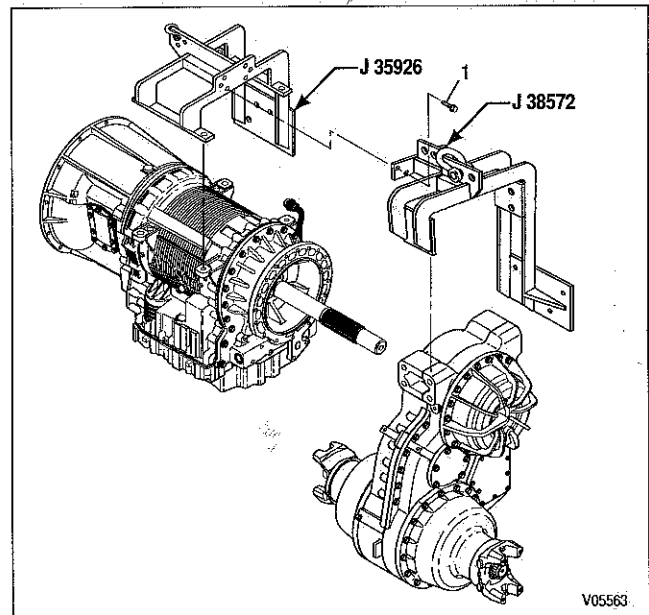

Figure 4-1. 3700 SP or MD 3070PT Repair Stand Brackets
4. For a 3700 SP or MD 3070PT transmission model, follow Step (1). In addition, install fixture J 38572 on the transfer case. Connect fixtures J 35926 and J 38572 by installing four bolts 1 (Figure 4-1). Secure the transmission holding fixtures to the repair stand.